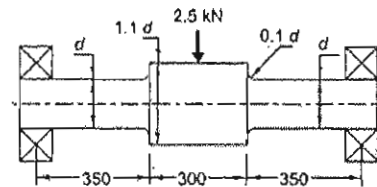

Fig. 3
7. A non-rotating shaft supporting a load of 2.5 kN is shown in Fig. 3. The shaft is made of brittle material, with an ultimate tensile strength of 300 N/mm2 and the factor of safety is 2.5. Determine the dimensions of the shaft.